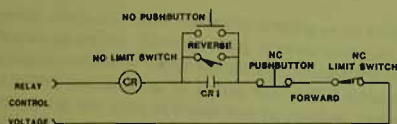

FIGURE 13
NOTE: The contact closure across terminals 1 and 2 of TB4 must be maintained in order to run in the reverse direction. Refer to Figure 13 if momentary switches are to be utilized.
10.8.1 continued "Shear Pin" LED is illuminated, NO MOTOR CONNECTED TO TB3.	10.8.1.3 (L) continued Replace F1 fuse. Refer to Figure 13. Replace the six (6) Power Module connection wires onto the Power Module. Reconnect AP4, AP5, AP6 and AP7 onto the motherboard as shown in Figure 16. Replace the driver module onto MC3 and MC4. Be sure to line up all 10 pins on both connectors. Replace the ribbon cable which originates at the transistor module onto AP1 on the driver module. Replace the control module. Replace all connections to TB1 and TB2. Refer to the Start Up procedure and perform all the tests in that procedure.